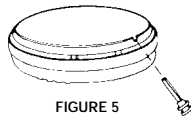

FIGURE 5
7. USING TAMPER RESIST LOCKING PIN: To make your smoke alarm somewhat tamper resistant, a locking pin has been provided in the bag with the screws and anchors. Using this pin will deter children and others from removing the alarm from the mounting plate. To use the pin, insert it into the hole in the side of the alarm after the alarm has been installed on the mounting plate (see Figure 5).